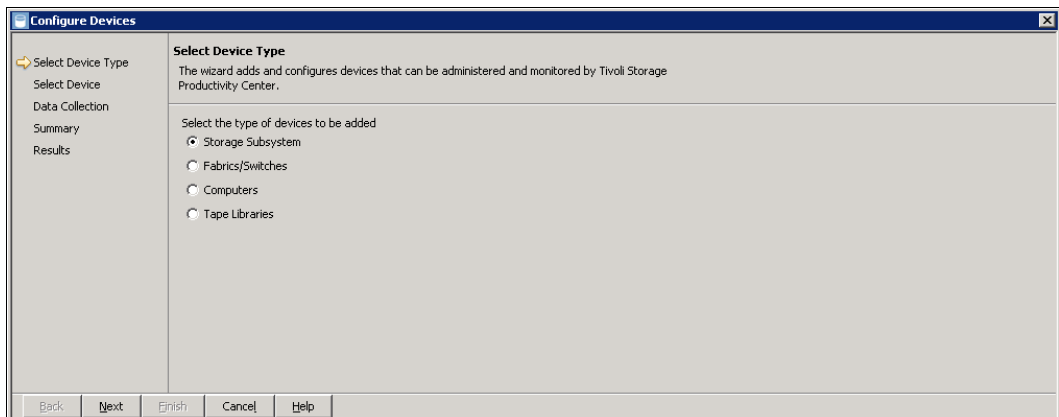

Figure 12-41 Select Device Type
3. Select **Storage Subsystem** and click **Next** (Figure 12-41).